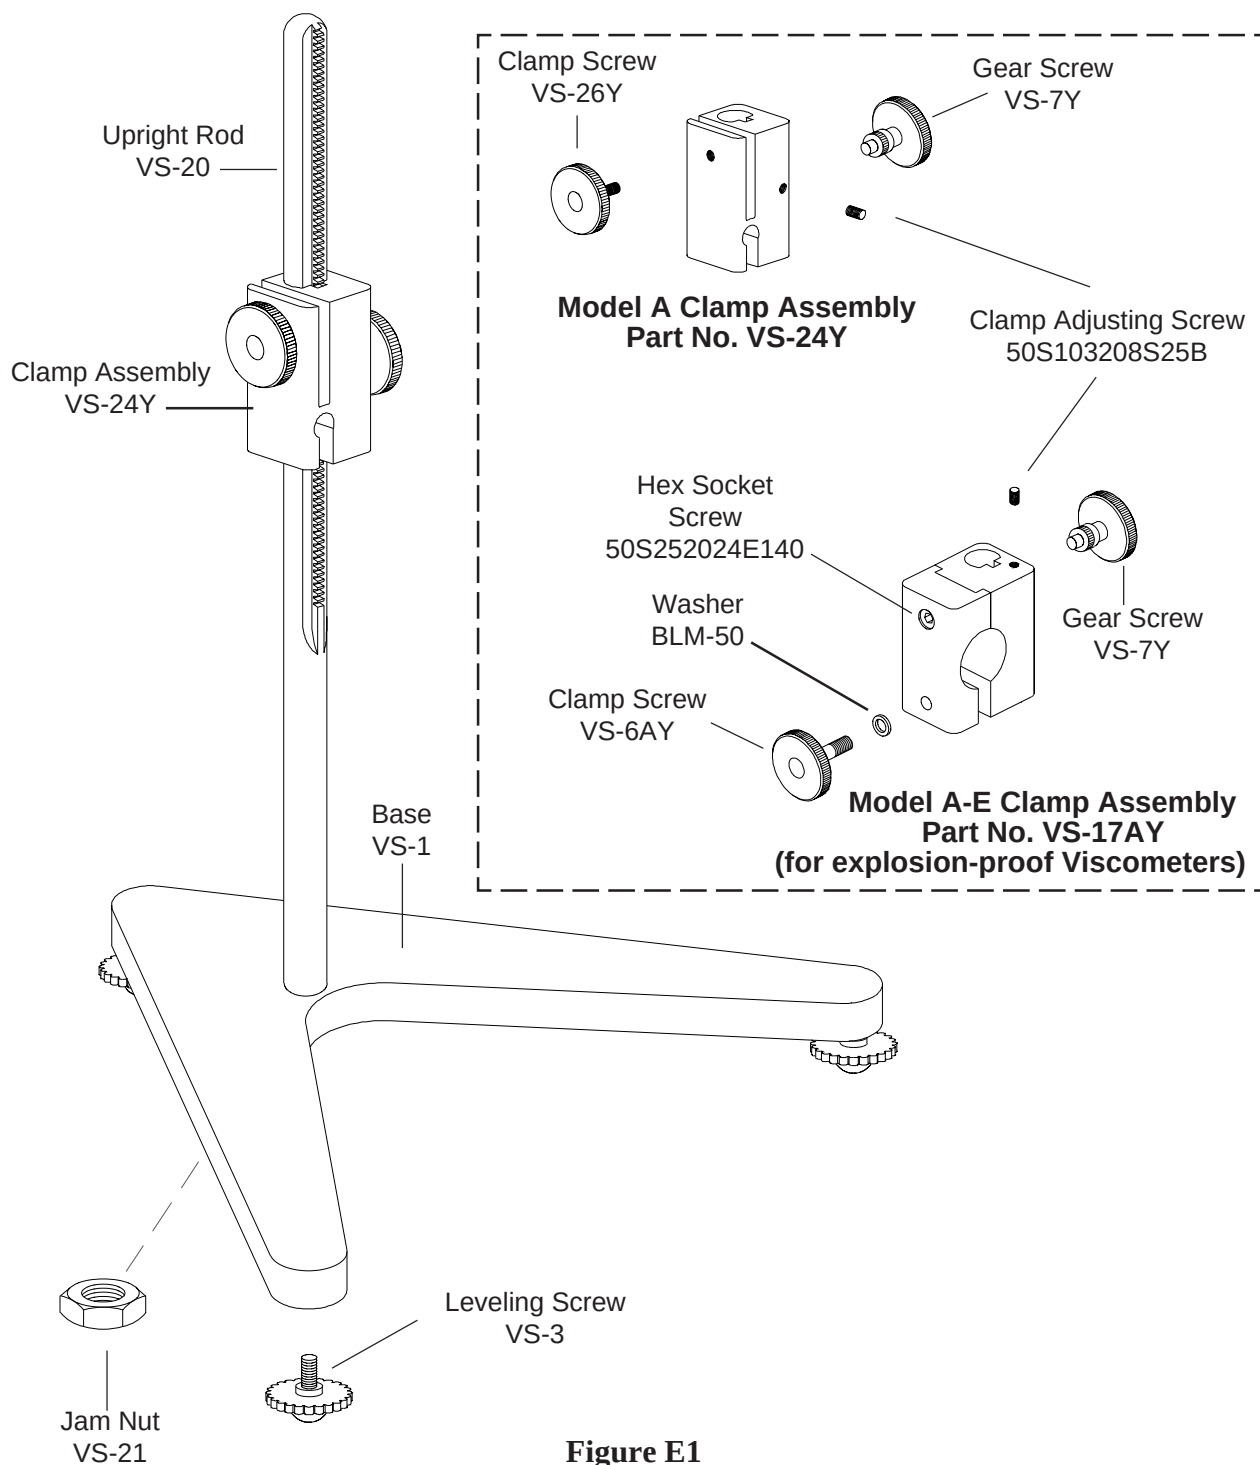

**Figure E1**
### **Assembly (Refer to Figure E1)**
**Note:** The small clamp adjusting screw (Figure E1) on the clamp assembly should be loosened or tightened as necessary to provide smooth height adjustment and adequate support for the Viscometer.